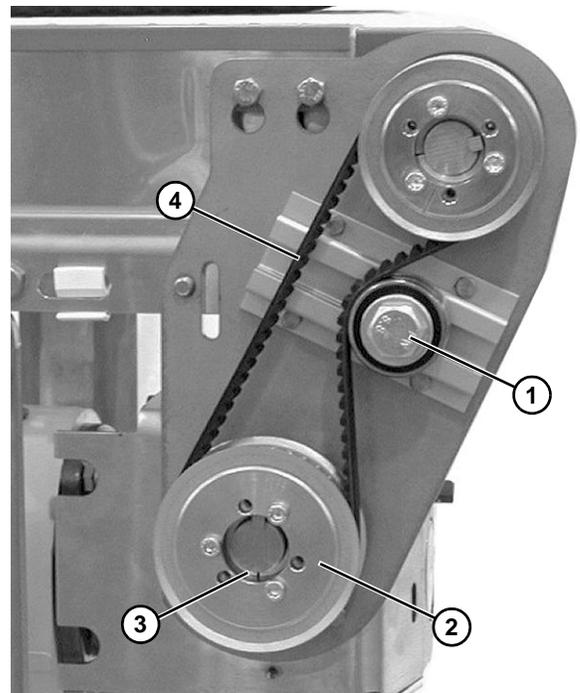

Figure 19
If drive pulley (**Figure 19, item 2**) is replaced, wrap timing belt around drive pulley and complete step 3.
- Loosen tensioner screw (**Figure 19, item 1**).
- Remove pulley (**Figure 19, item 2**), taper hub assembly (**Figure 19, item 3**), and timing belt (**Figure 19, item 4**).